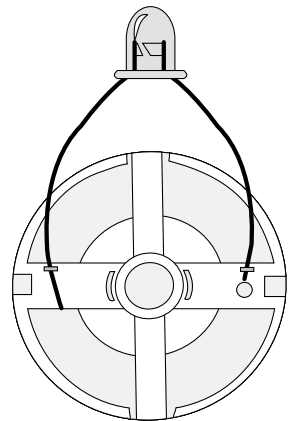

Figure 13
6) Set the rotor unit in front of a fan. Take the LED and spread its two wires apart enough so they touch the two terminals on the motor (Figure 13). Run the fan until the rotor blades turn very fast. If the LED lights up, solder the LED wires in that position.